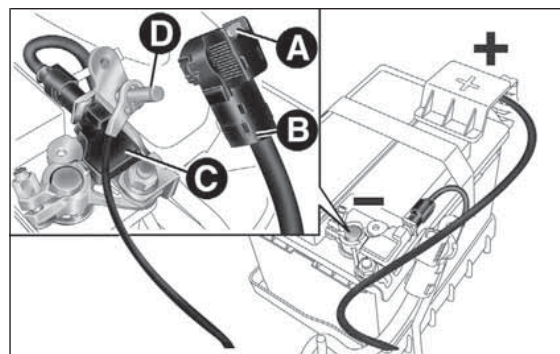

fig. 156
- disconnect the connector A fig. 156 (pressing the button B) from the sensor C monitoring the battery conditions, on the negative pole D of the battery;